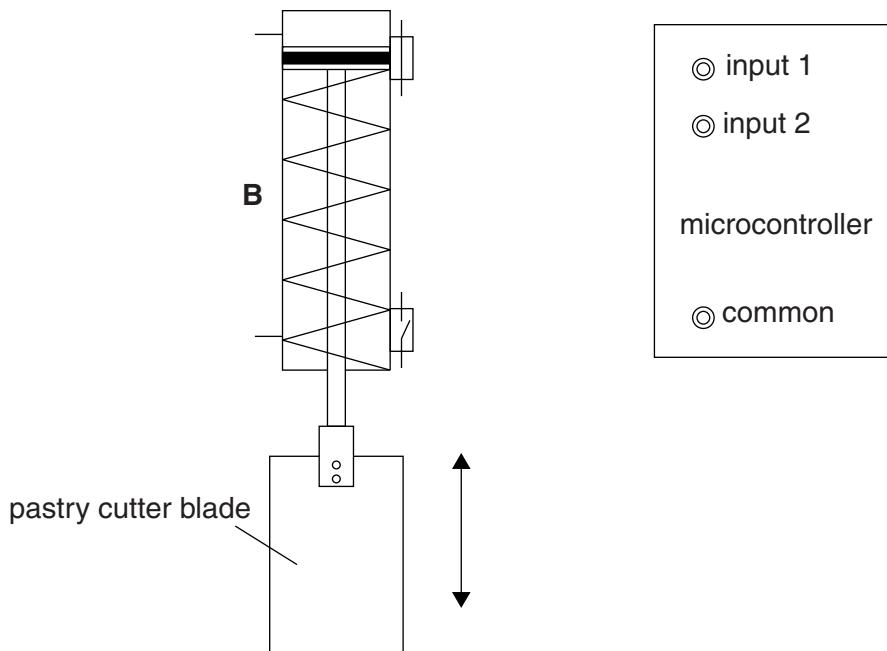

Fig. 8
Fig. 8 shows the reed switch cylinder and part of the microcontroller.
Complete Fig. 8 by drawing in the feedback connections to indicate the position of the piston to the microcontroller.
- (ii)** Explain how the switches in Fig. 8 indicate the position of the pastry cutter blade.